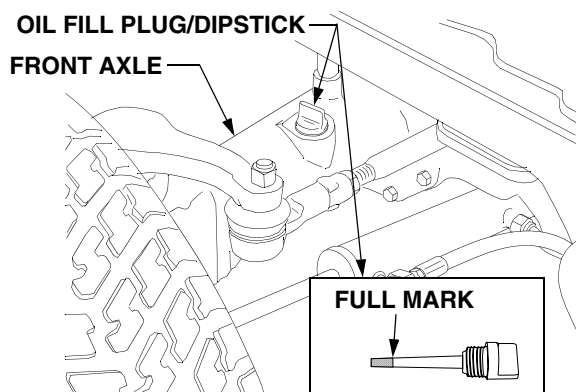

Figure 45
- The oil fill plug/dipstick is located on the *left* side of the axle housing. See Figure 45.
- Clean the area around the oil fill plug/dipstick to prevent debris from entering the axle housing. See Figure 45.
- Withdraw the dipstick and wipe it clean, then reinsert and screw in all the way. Unscrew and withdraw again to read the oil level. Always keep the oil level between the bottom and the full mark of the dipstick (See Figure 45).
- To prevent debris from entering the front axle housing, clean the area around the oil fill plug/dipstick and the axle drain plug located at the center front of the axle. Refer to Figure 45 and Figure 47.